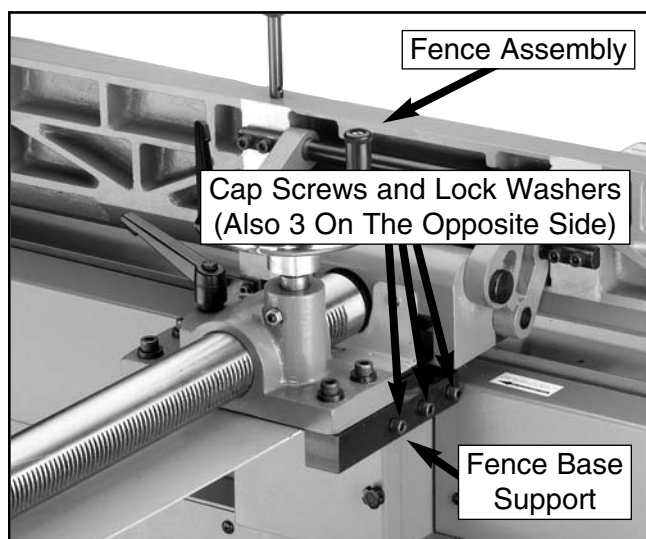

Figure 12. Fence assembly installed.
2. Attach the fence assembly to the jointer assembly with (6) M8-1.25 x 45 cap screws and (6) M8 lock washers (Figure 12).